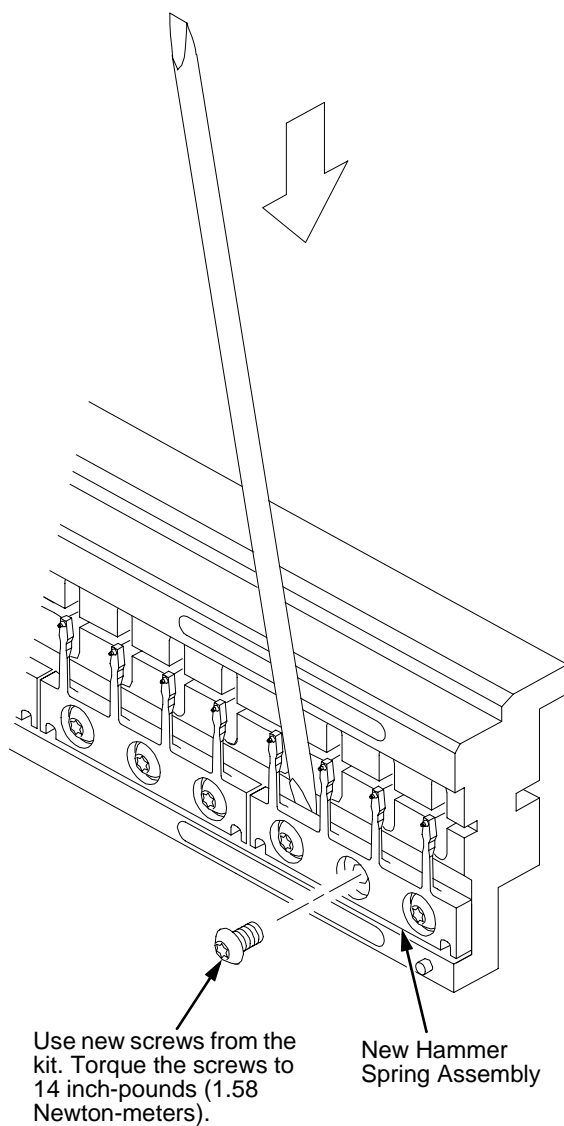

Figure 34. Hammer Spring Assembly, Installation
3. Handling the hammer spring assembly by the mounting base only, carefully position the new hammer spring assembly onto the hammer bank mounting pins and press it into position with the flat end of the stick supplied in the hammer spring replacement kit. (See Figure 34, page 214.)
4. Install the mounting screws from the replacement kit. Using a Torx** T-10 bit adapter, torque each screw to 14 inch-pounds (1.58 N•m). Tighten the center screw(s) first. (See Figure 34, page 214.)